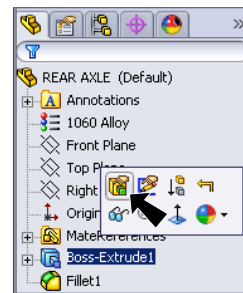

Fig. 14
Step 1. Click **Boss-Extrude1** in the Feature Manager and click Edit Feature  in the menu, Fig. 14.